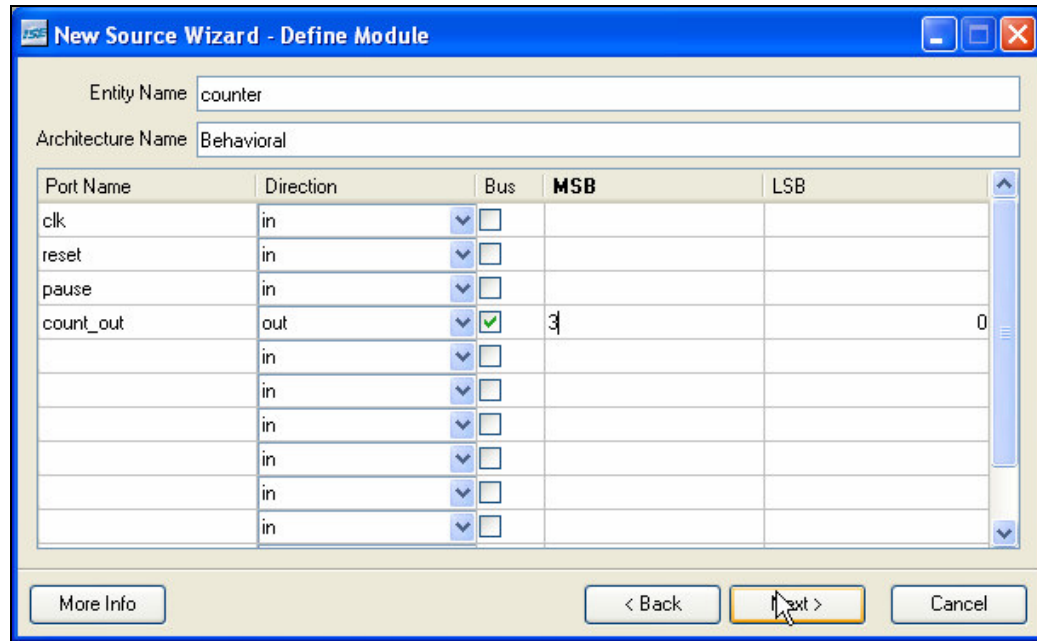

Figure 3 Counter setup in the Define Module window.
3. In the **Define Module** window, list the port names in the “Port Name” Column. The ports are the lines going into and out of the device. Specify whether the port is an input (in) or an output (out) in the “Direction” column. The ‘inout’ selection will not be used in this tutorial. The box in the “Bus” column gets checked if the line will carry more than one bit. If “Bus” is selected, specify the most significant bit (MSB) and the least significant bit (LSB) in the appropriate column. Figure 3 shows the setup for the counter. Notice all ports carry one bit except for ‘count_out’, which will carry four bits (3 downto 0). When finished entering data, click “Next>”.